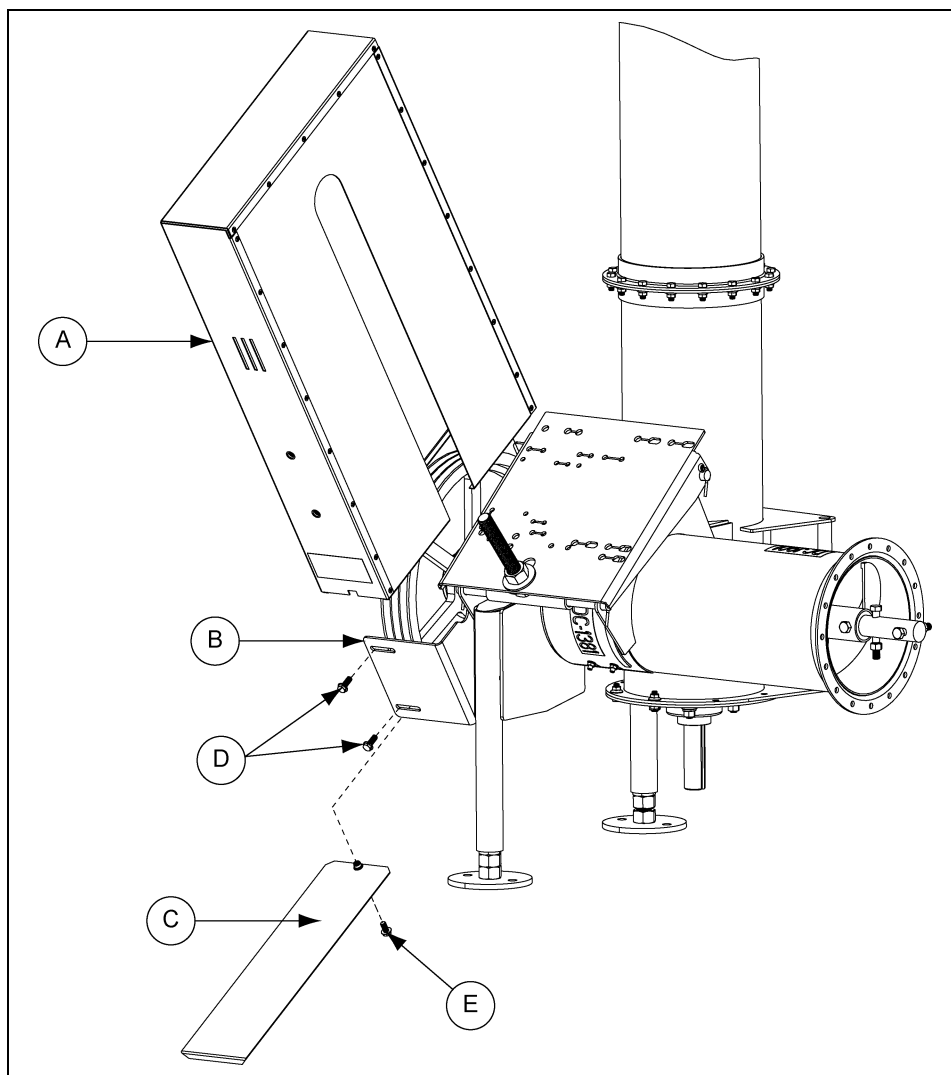
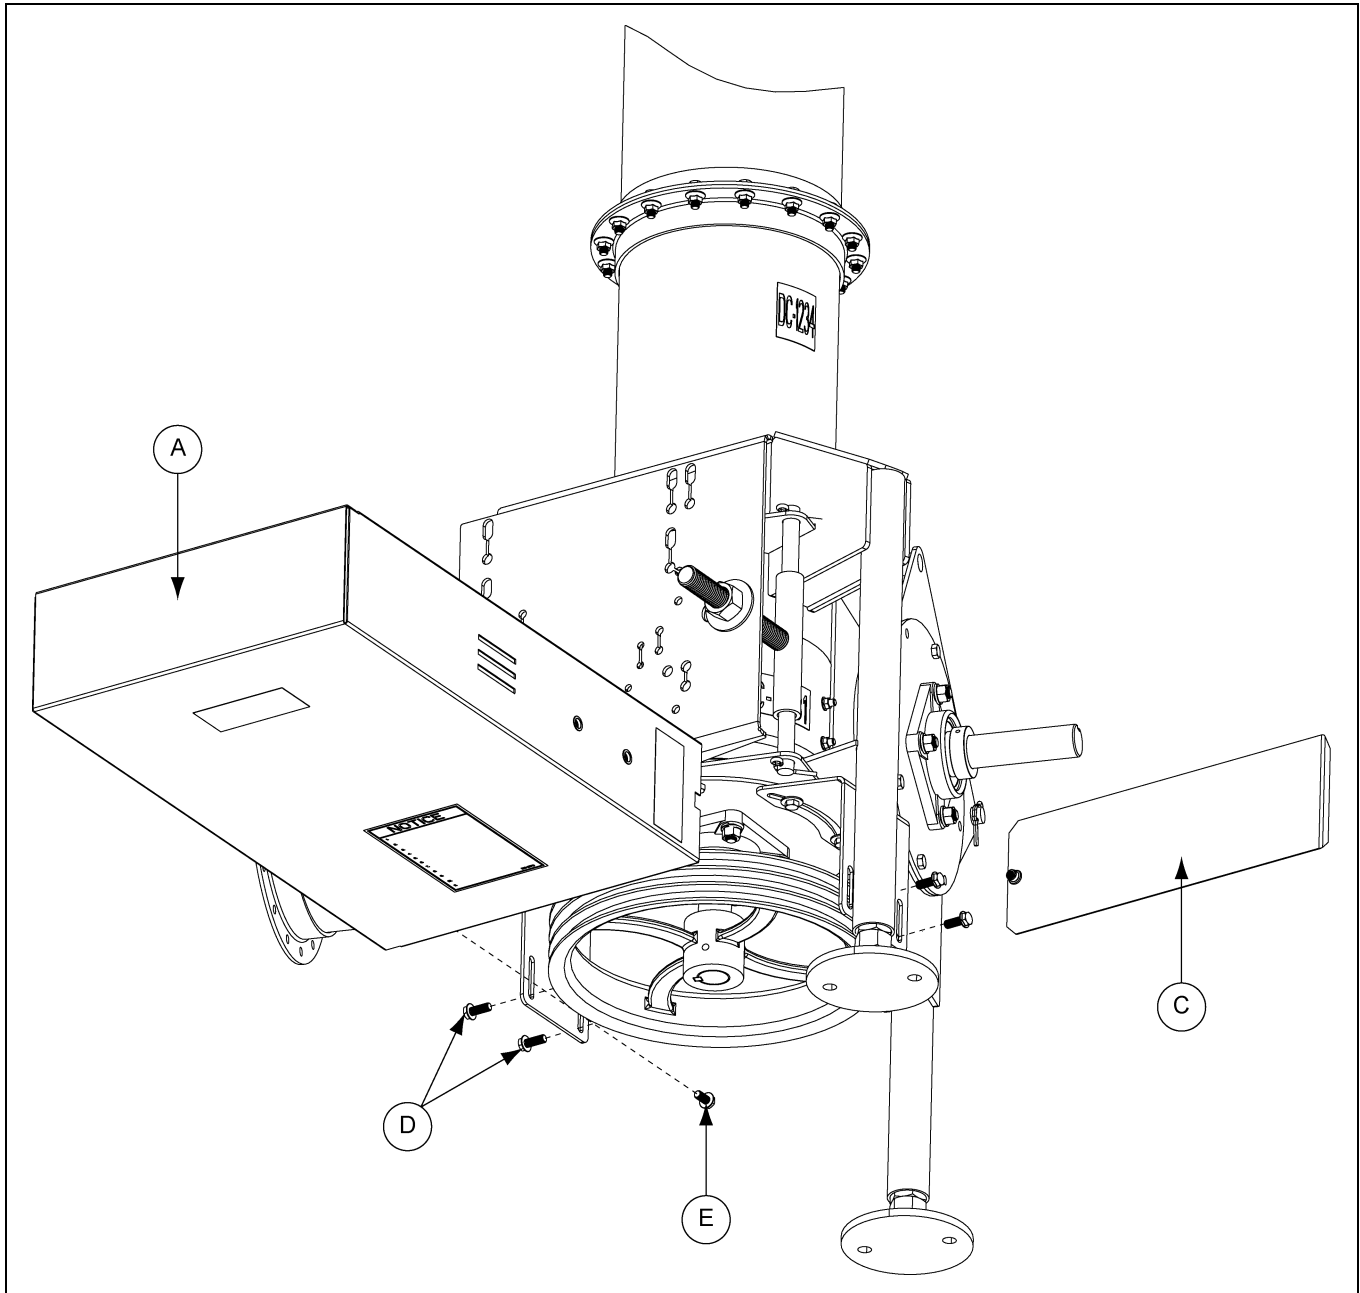

Figure 3R
Figure 3S
- A. With the belts properly tensioned, remove the *bottom belt guard cover (C)* and slip the *belt guard (A)* down over the *motor shaft* and the *flight pulley*.
- B. Bolt the *belt guard (A)* to the *belt guard mounting brackets (B)* using four (4)  $3/8"$  x  $1"$  flange bolts (D). The *belt guard mounting brackets (B)* should still be loose at this time.
- C. Align the *belt guard's* slot with the *motor shaft* and the *flight drive shaft*, making sure that the belt guard does not come into contact with either of the *pulleys*. Tighten down the *belt guard mounting brackets (B)* to the *bearing plate*. (See Figure 3R below and Figure 3S on Page 31.)